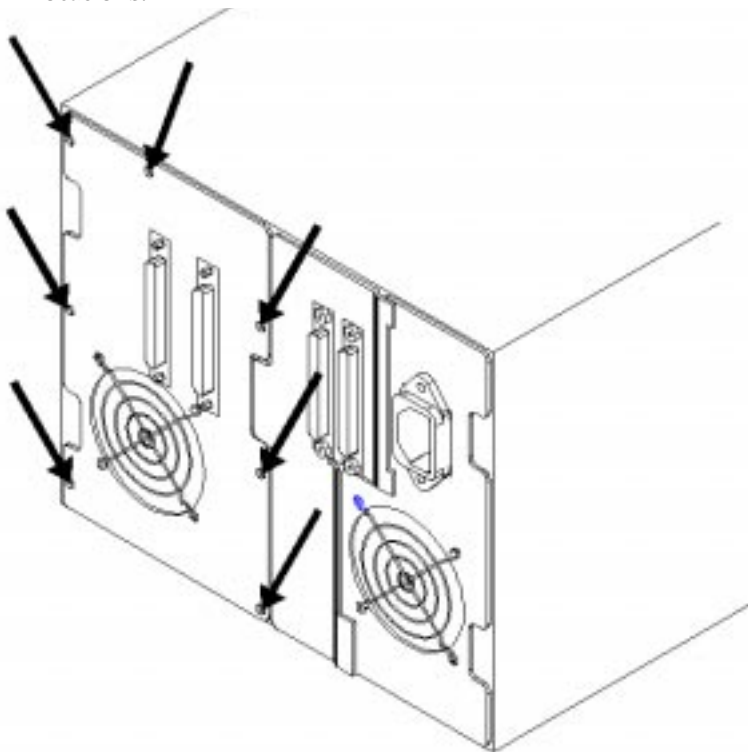

FIGURE 5-3 Screw Locations
3. Remove the seven screws on the DLT drive’s rear plate. See FIGURE 5-3 for screw locations.
3. **Install the seven screws on the drive's rear plate. See FIGURE 5-3 on page 5-4 for screw locations.**